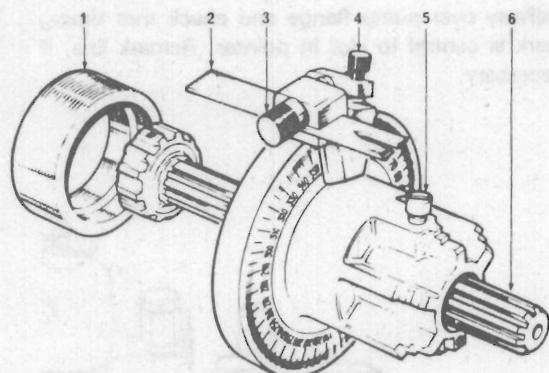

Fig. K.7.
3. Release screw (5, Fig. K.7) of timing tool MS67B and remove splined shaft. The adaptor ring (1) is not used with this engine type.
2. Release screw (5, Fig. K.7) of timing tool and position splined shaft (6) in tool so that relevant spline is to front of tool. The adaptor ring (1) is not used with this engine type.
3. Ensure that slotted pointer (2) is positioned with slot to front of tool and chamfered sides of slot outwards. At this stage, slotted end of pointer should be kept well back from front of body. Ensure that flat in washer fitted behind the pointer securing screw (3) is located over pointer.
4. Release bracket securing screw (4) and set bracket so that the chamfered edge is in line with the relevant engine checking angle (see Page B.13).